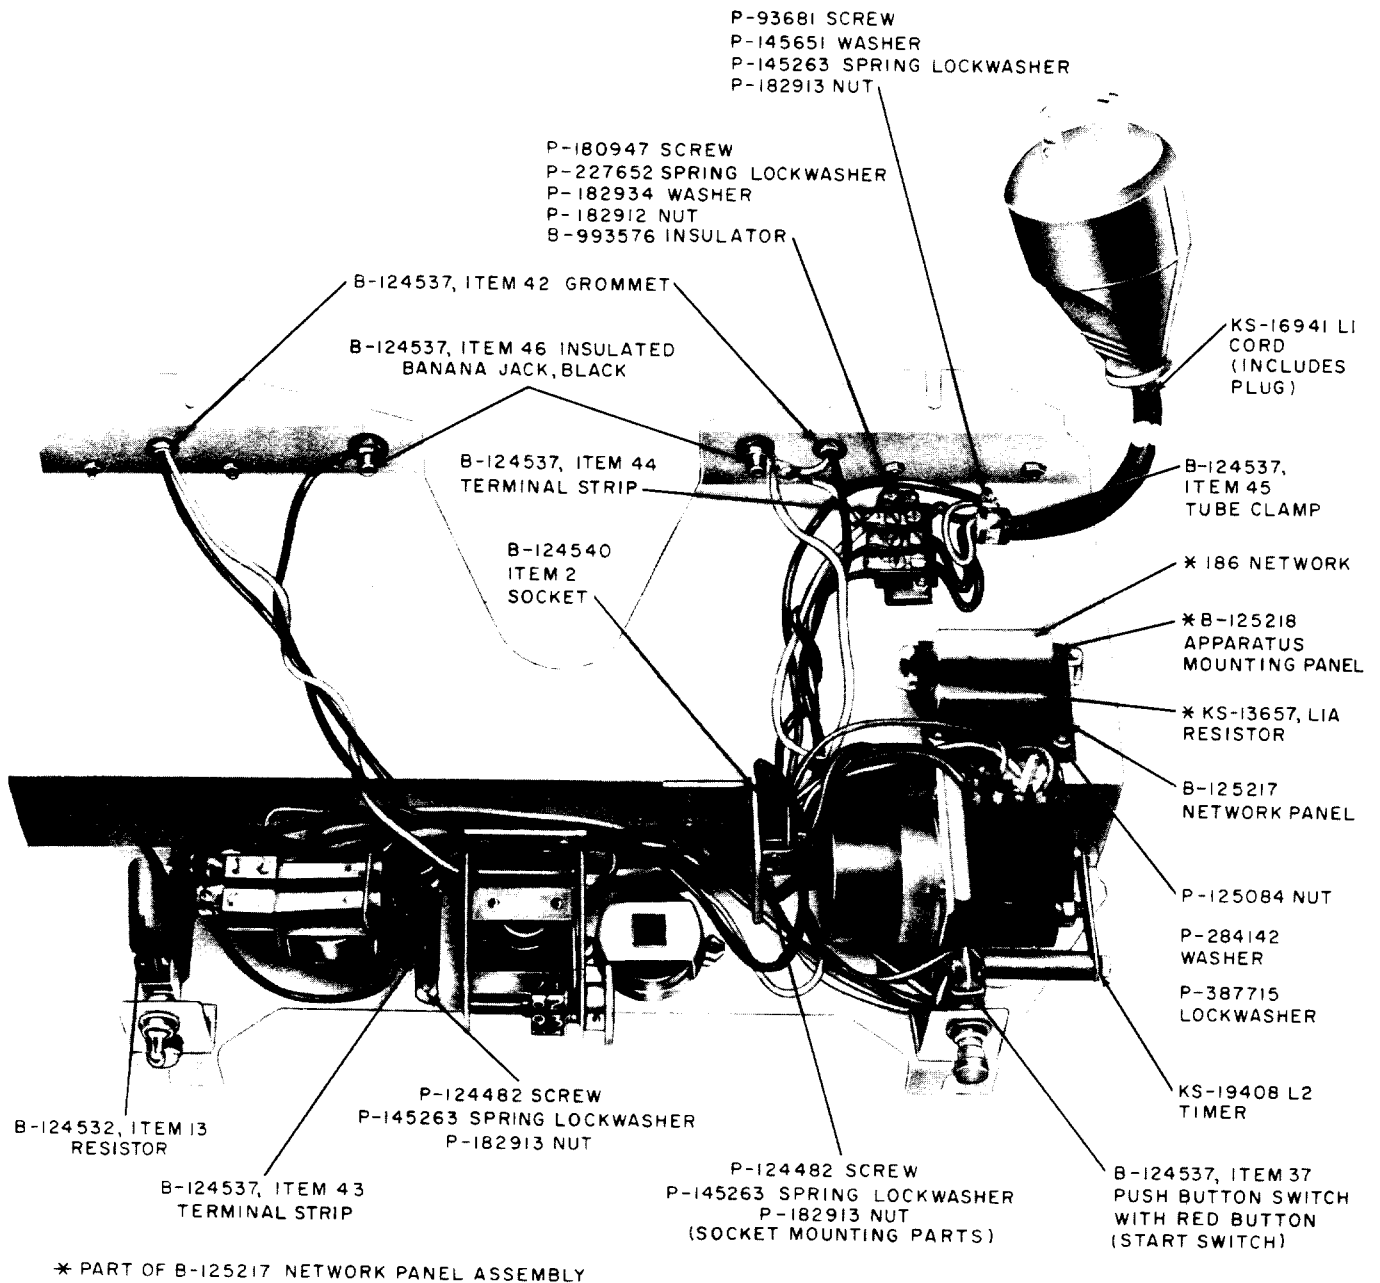
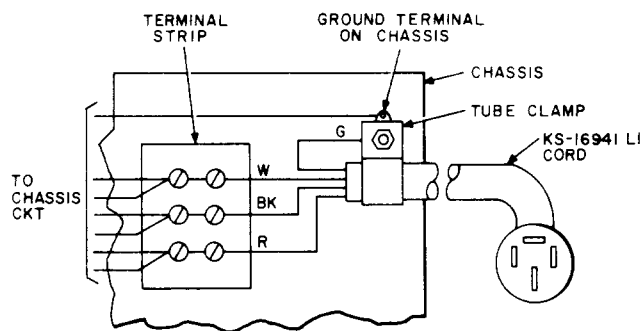

Fig. 1—Chassis Removed From Camera (Top View)
Fig. 5—KS-16941 L1 Cord Wiring Schematic
1.08 All cameras manufactured after September 1972 will have a B-993576 terminal insulator added to the chassis assembly (Fig. 1) to prevent short-circuiting. This insulator should be installed under the terminal block of units presently in the field only when field repair of the unit is attempted.
3.05 Start Switch: Fig. 1—Tag and unsolder the leads from the switch terminals. Remove the knurled nut using the combination pliers and remove the switch. Set the hexagonal nut of the new switch at approximately the same position on the switch mounting stud as that of the nut on
3.10 KS-19408 L2 Timer: Fig. 1
3.11 Network Panel: Fig. 1—Using the 33 socket wrench, remove the panel mounting nuts, washers, and lockwashers. Tag and unsolder the leads to the panel terminal. Solder the leads to the proper terminals on the new panel, and mount the panel making sure that the washers and lockwashers are under the nuts.
3.14 Socket: Fig. 1—Remove the mounting bracket screws and associated nuts and washers using the 4-inch E screwdriver. Move the bracket to a position convenient for disconnecting the leads to the socket. Tag and unsolder the leads. Using the 4-inch E screwdriver, remove the socket mounting screws and associated nuts and washers. Mount the new socket on the bracket with terminals 1 and 2 at the top, and securely tighten the mounting screws. Connect and solder the leads to the proper terminals of the socket. Remount the bracket on the chassis, and securely tighten the screws.
3.15 Banana Jack: Fig. 1—Remove the jack mounting nut with the 417A wrench. Remove the terminal and insulating washer. Remove the jack. Substitute the new jack, and place the insulating washer on the jack with the shoulder of the washer in the mounting hole. Place
3.17 KS-1694 L1 Cord: Fig. 1—Remove the tube clamp mounting nut with the 418A wrench while holding the clamp mounting screw with the 3-inch C screwdriver from the rear of the panel. Remove the washers and clamp. Remove the green cord conductor from the tube clamp mounting screw. Disconnect the three cord conductors from the terminal strip using the 3-inch C screwdriver. Transfer the tube clamp to the new cord. Connect the red, white, and black conductors of the new cord to the terminal strip as shown in Fig. 5. Form a loop in the green conductor, and then hook the loop around the tube clamp mounting screw. Remount the clamp, washers, and clamp mounting nut. Securely tighten the mounting nut.